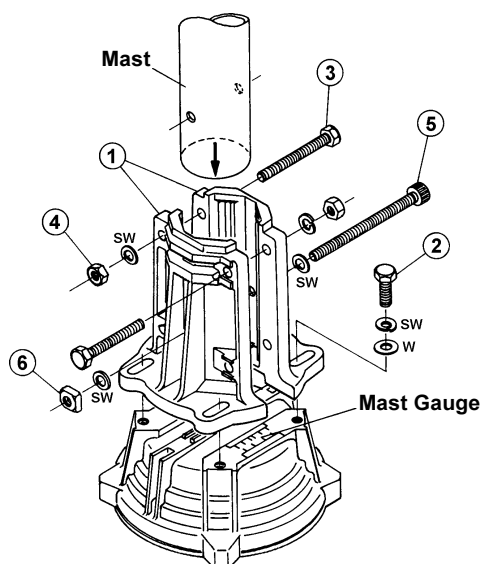
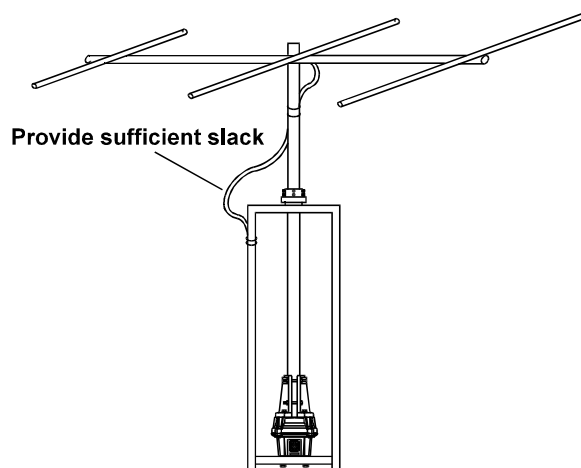

Figure 5
Figure 8
4. Partly tighten the mast clamp ① to the rotator housing using the supplied M8 x 25 bolts ②, spring washers and flat washers (see Figure 5).
5. Using a "gin pole" or other raising fixture, insert the antenna mast through the bearing from above, and set the mast in the rotator's mast clamps, then partly tighten the mast clamps using the supplied M8 x 70 bolts ③ and spring washer.
6. Pass the supplied M8 x 95 screw ⑤ through the mast clamps and through the mast, then partly tighten it using the supplied square nut ⑥.
11. Provide sufficient slack in the coaxial cable such that the antenna can rotate over its full 450° range without putting any tension on the coax (see Figure 8). Secure the coax to the tower, using electrical tape and/or UV-resistant cable ties.